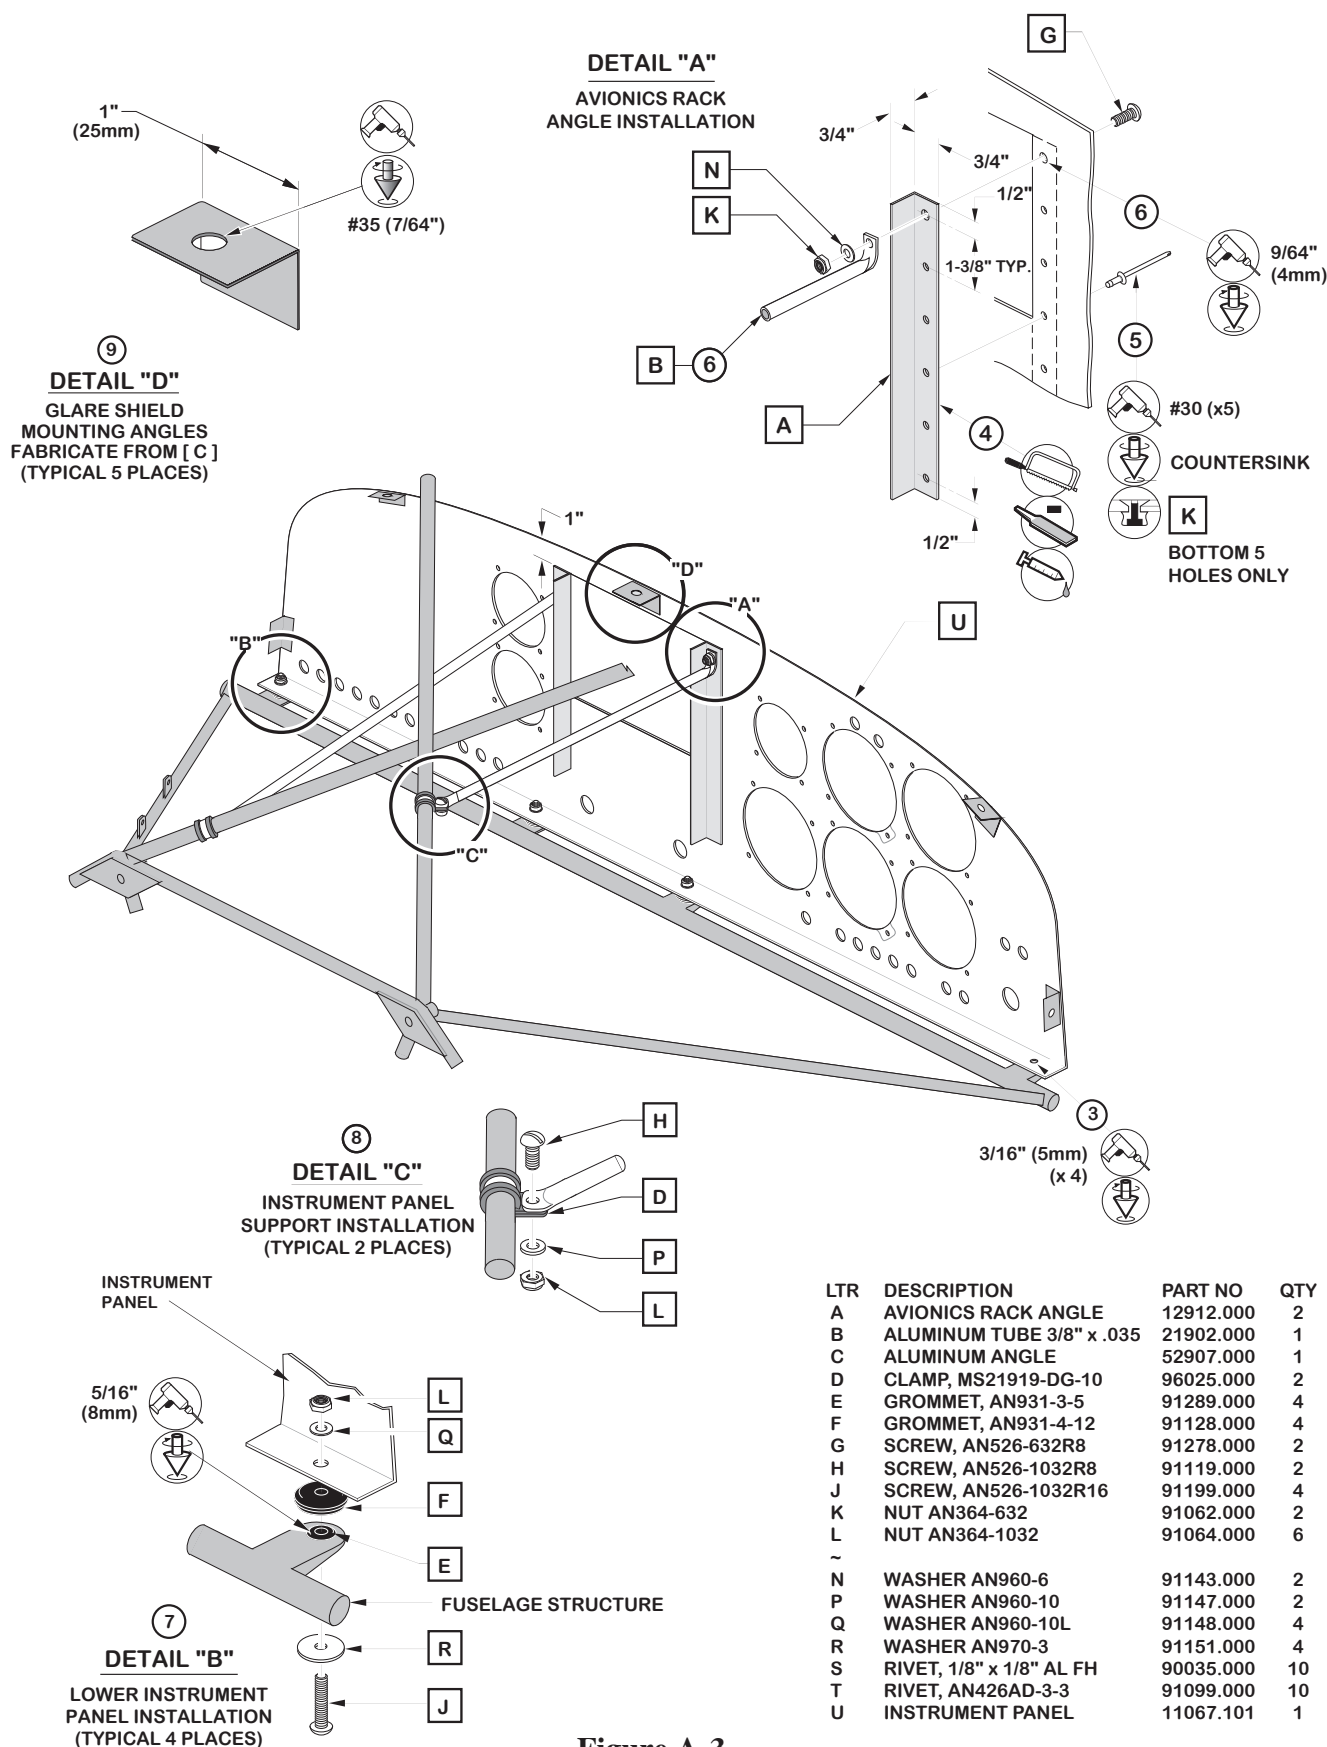

Figure A-3
5. Drill the avionics rack angles and instrument panel for the angle mounting hardware and deburr, as shown in Detail "A" of Figure A-3. Countersink the lower five holes in the panel face; do not countersink the top hole on each side. Bond prep the mating surfaces of the angles and panel with Scotch-Brite and clean with denatured alcohol. Rivet and bond the angles in place using structural adhesive and the pop rivets shown.